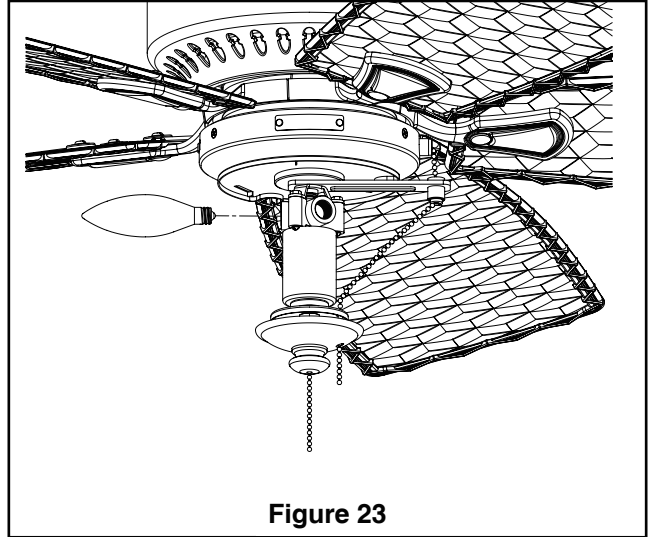

Figure 23
1. Install included candelabra bulbs into each of the three sockets. (Figure 23)